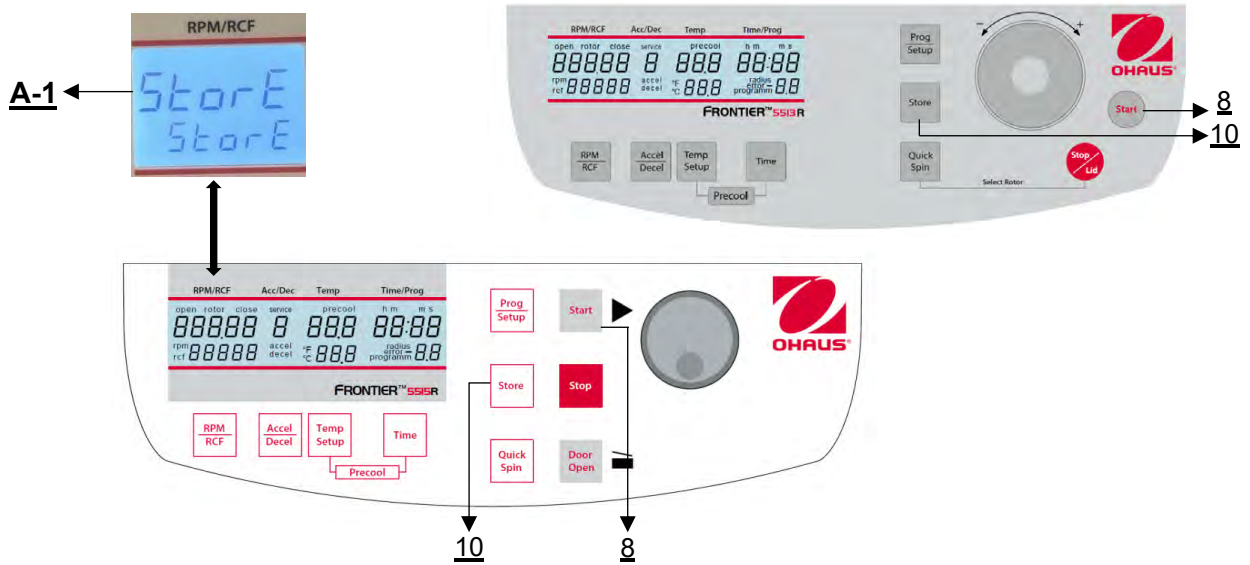

Figure 26
All changed settings must be confirmed by the key **"Start"**(8) or **"Store"** (10). The word **"Store"** appears in the display **"RPM | RCF"** (A-1) – Only then the pre-selections are valid (see **Figure 26**). After you have stored the settings, you can change to normal program mode again by switching off the centrifuge for a short while.